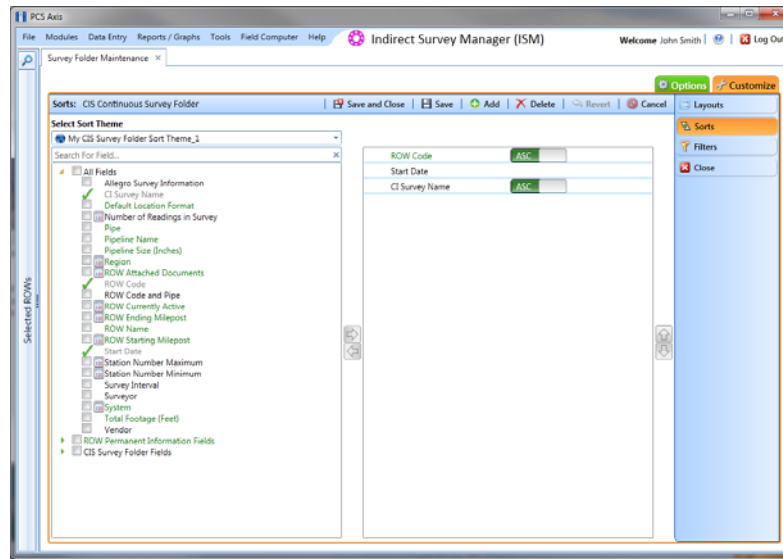

Figure 5-15. Sort Theme
- 9 Click  **OK** to save changes and return to the *Sorts* page (Figure 5-15, page 151).